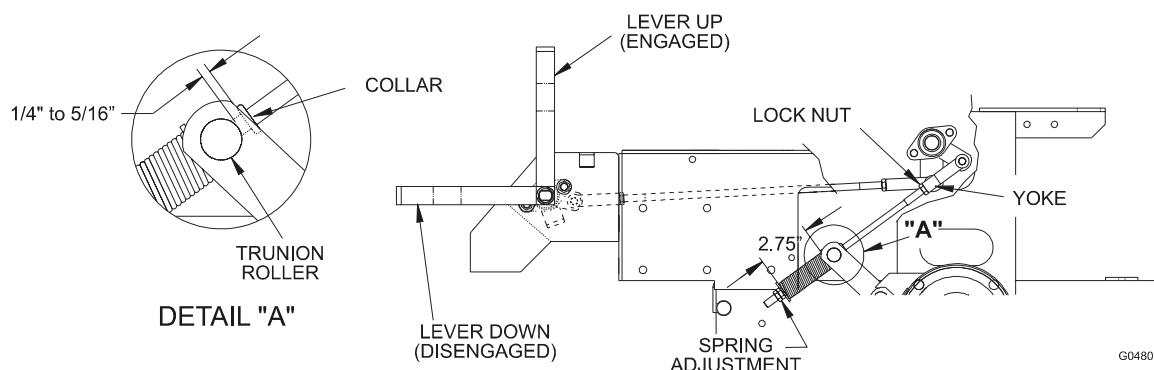

FIGURE 11
- Measure the length of the spring. Measurement should be 2.75" (7.0 cm) between washers (see Figure 11).
- Measure the distance between the trunion roller and the rod collar. Measurement should be 1/4" (6.4 mm) to 5/16" (7.9 mm). See Figure 11.